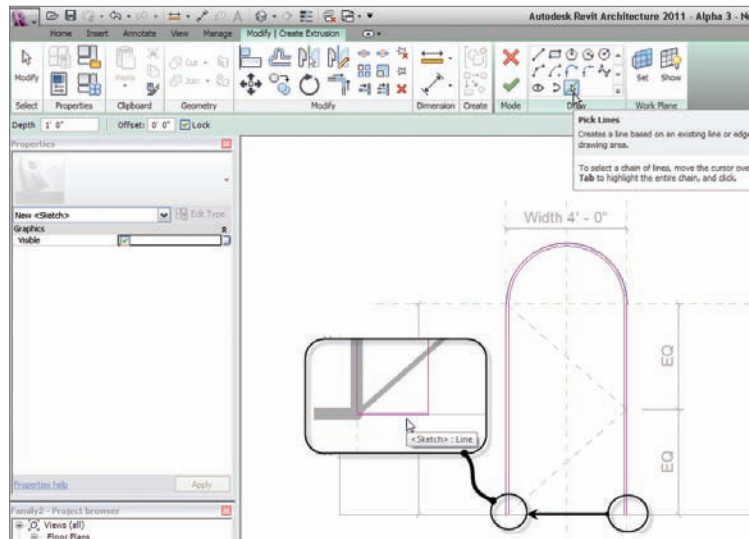

FIGURE 17.18 Picking the frame for the jamb
7. On the Options bar, check the Lock toggle, as shown in Figure 17.18.
8. Pick the inside face of the opening, as shown in Figure 17.18.
13. Draw a line connecting the bottom of each jamb, as shown in Figure 17.18.